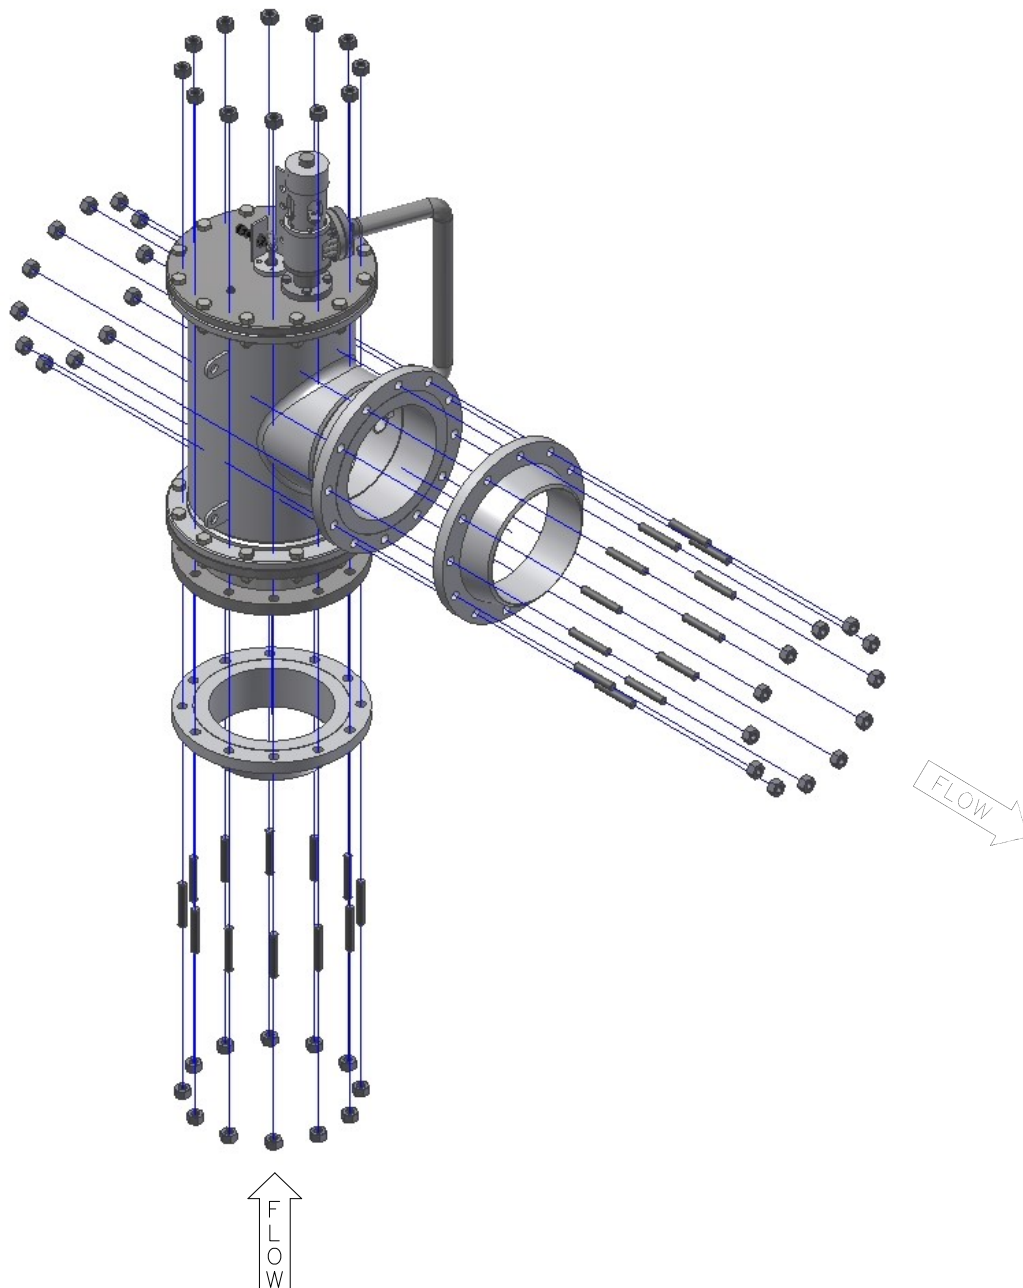

Figure 4: Typical Installation of BPPV between companion flanges.
2. Place the BPPV valve body in between inlet and outlet companion flanges as shown in Figure 4 (outlet flange may not be applicable for free vent flow). Make certain that the flow arrow matches the flow direction of the piping system.